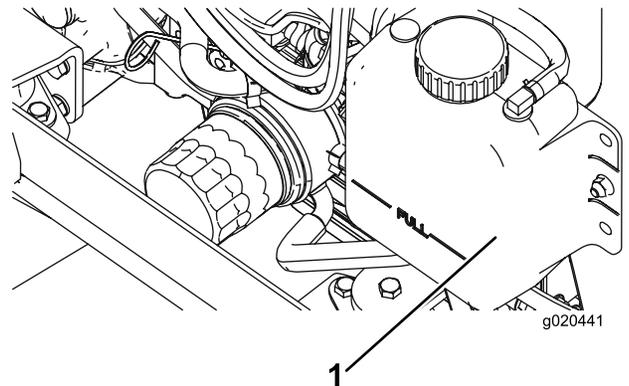

Figure 97
1. Carefully remove the radiator cap and expansion-tank cap (Figure 97).